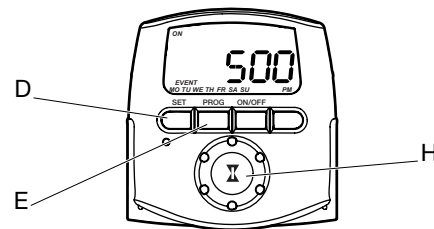

FIG 7. Changing the Dusk (ON) Time
1. Press **PROG** (E) twice.
2. Turn the selector knob (H) until a time appears on the screen. Press **PROG** (E).
3. Turn the selector knob (H) to select the correct ON hour. Press **PROG** (E).
4. Turn the selector knob (H) for the correct ON minute. Press **SET** (D). See FIG. 7.